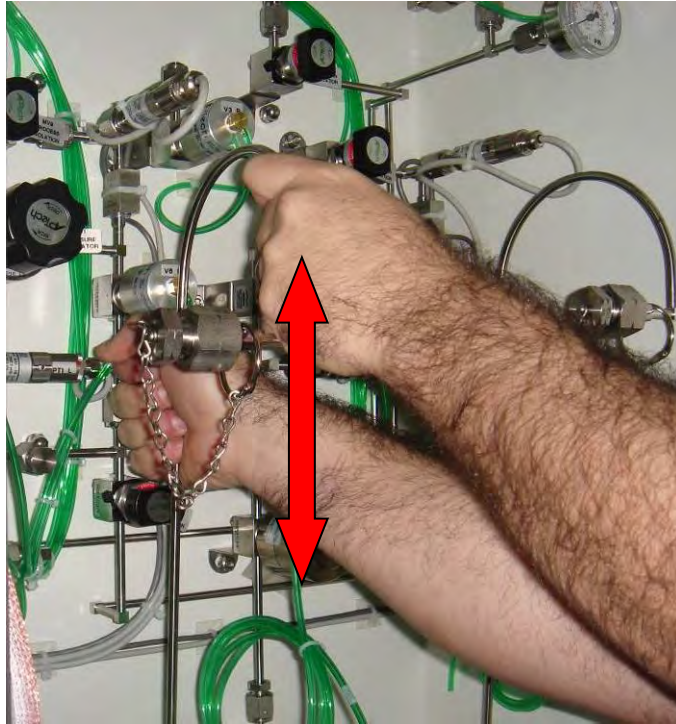

Figure 13.1 Adjusting the pigtail height
5. Grasp pigtail with both hands positioned as shown in Figure 13.1. One hand must support the back part of the pigtail loop. The second hand should grasp the front part of the loop. Do not pull on the cylinder connection itself.